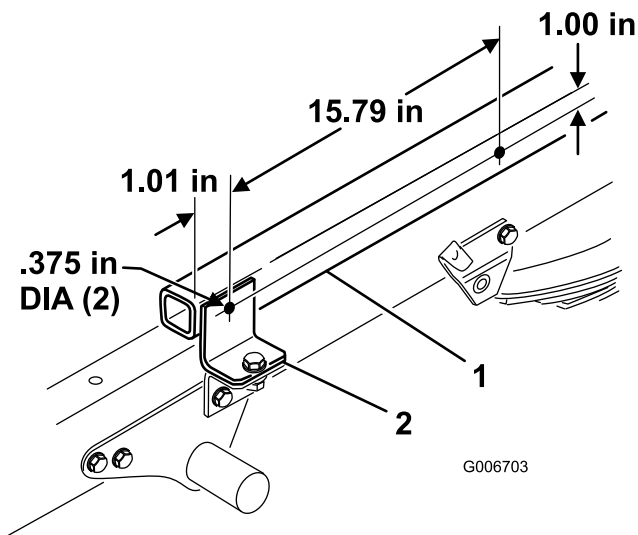

Figure 15
37. Using dimensions shown in Figure 15, locate, mark and drill (2) .375 (3/8)" diameter holes, thru both walls, of each H.D. Hitch Frame Tube.